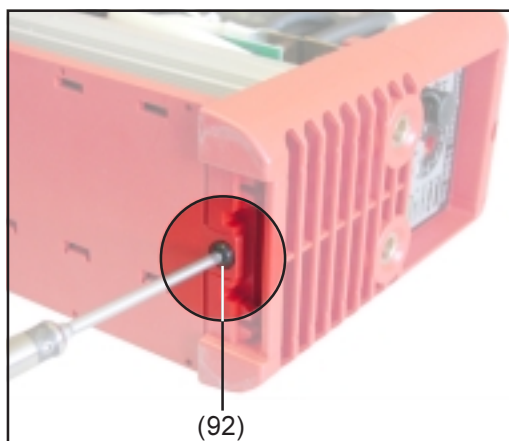

Fig. 15
- Plug the 10-pole Molex plug (41) onto board LCA15
- Plug the 2-pole Molex plug (40) onto board LCA15
- Arrange the ribbon cable (42) above the cable harness, as shown in Fig. 15
- Plug the ribbon cable (42) to board FPA15 (5)